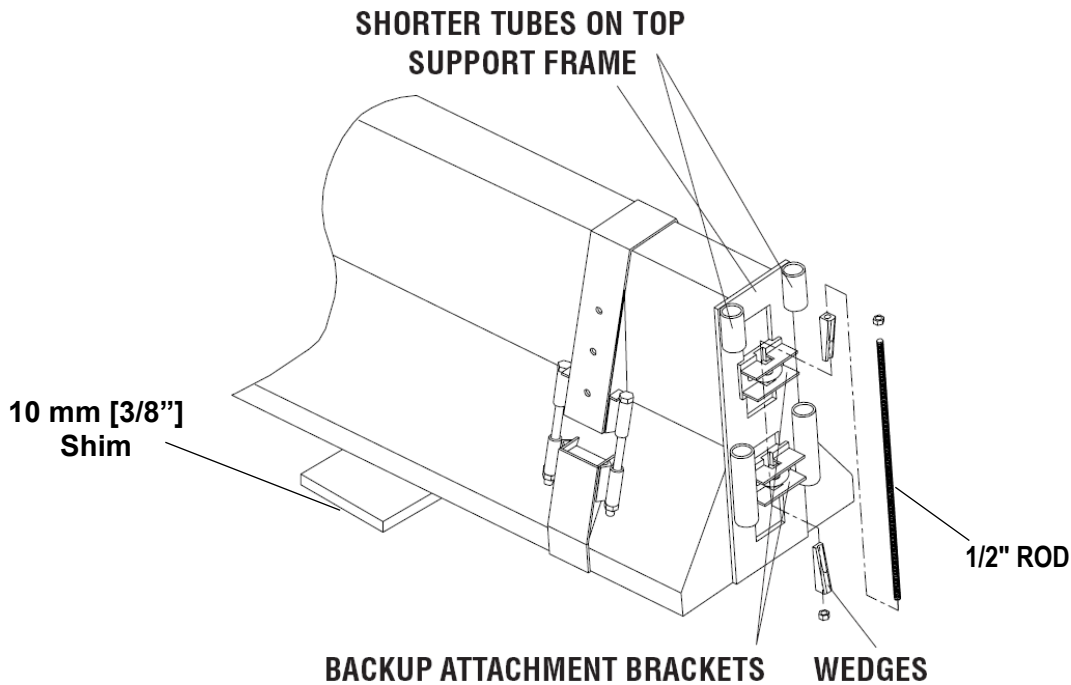

Figure 5
Step 3: Support Structure (See Figure 5)